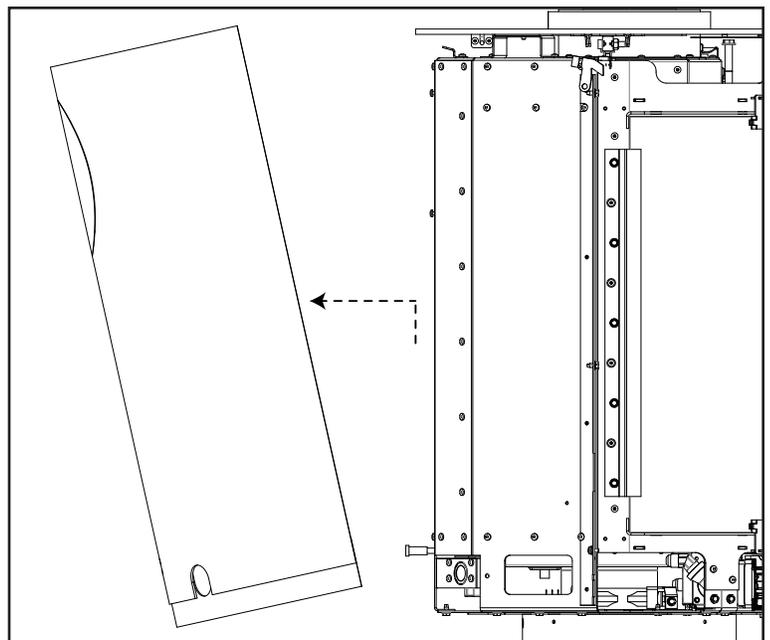

Figure 23: Rear Chassis Removal
4. Lift up to disengage the slot from the spacers and pull away from the unit (See Figure 23).